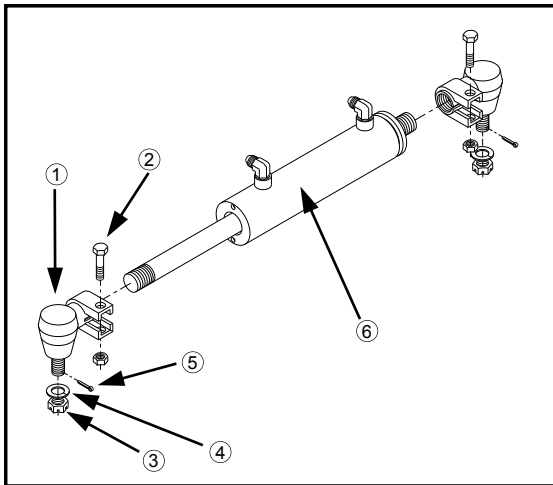

FIG 7.57
1. Remove cotter pin (fig. 7.57, item 5), castle nut (fig. 7.57, item 3), and lock washer (fig. 7.57, item 4).
2. Loosen lock collar bolt and nut (fig. 7.57, item 2).
3. Lightly tap swivel assembly (fig. 7.57, item 1) out of steering arm.
5. Screw swivel assembly in or out on steering cylinder (fig. 7.57, item 6) until the tread part lines up with the steering arm.